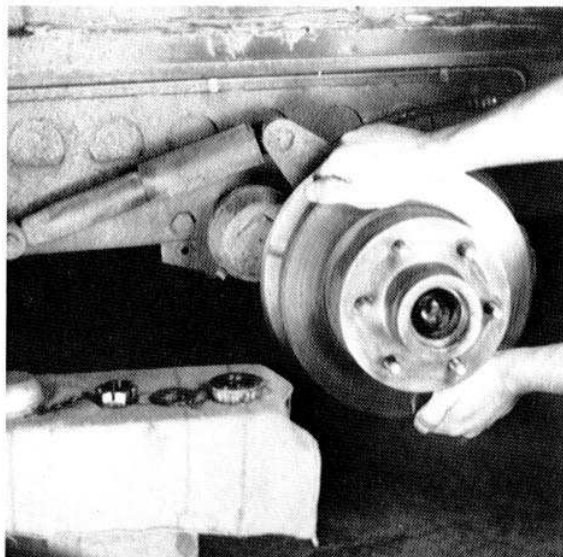

Fig. 44
REMOVING HUB AND ROTOR ASSEMBLY (Fig. 44)
5. Remove hub and rotor assembly from spindle, (Fig. 44)